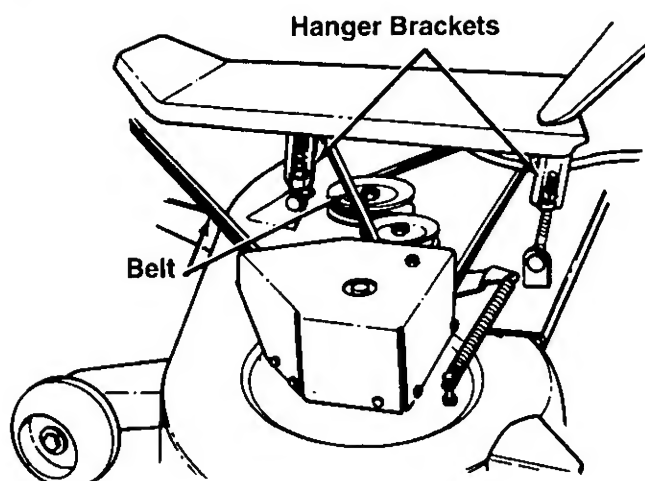

FIGURE 5.
5. Attach the four tractor hanger brackets to the deck as follows. The left front tractor hanger bracket goes through the center of the V-belt. See figure 5. Attach the rear hanger brackets first, then the front, using four flat washers and hairpin clips.